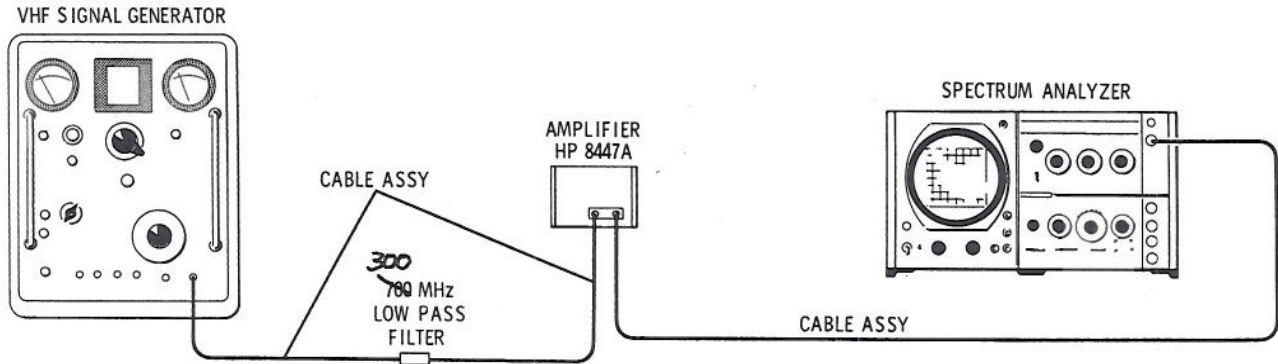

Figure 4-6. Distortion Test Setup
1. Connect the test setup as shown in Figure 4-6. Make the following control settings: